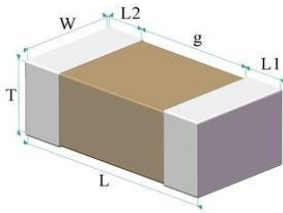

Fig.1 Structure & Dimension
| 2   | Size Code                                 | See Fig.1 and ② Size Code                                                                                                                                                                                                                             | Measuring by gages which precision is not less than 0.01 mm.                                |                                                           |